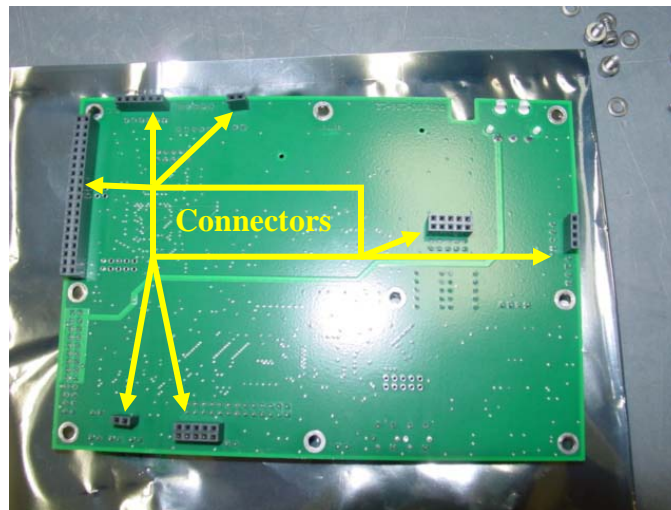

Figure 4 Electrical Connectors on the Back-side of the Expansion Module CCA
6. Verify that all of the connector pins on the system controller board (under the expansion module CCA) are straight up and down (not bent). If any of the pins were bent while removing the expansion module, they will need to be straightened before installing the expansion module CCA. Place the expansion module CCA over the system controller card so that screw holes are aligned with each of the stand-offs. Each of the electrical connectors on bottom of the expansion module must align with the pins on system controller board. See Figures 4 and 5, below.